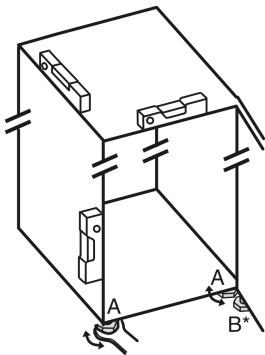

Fig. 24
- ▶ Unscrew the adjustable feet Fig. 24 (A) using the enclosed open-end spanner and a spirit level until the appliance is firmly aligned and level.
- ▶ Unscrew the adjustable foot Fig. 24 (B) on the swap bearing block with the enclosed open-end spanner until it rests on the floor.
- ▶ Turn the adjustable foot Fig. 24 (B) a further 90° at most to avoid damaging the door.